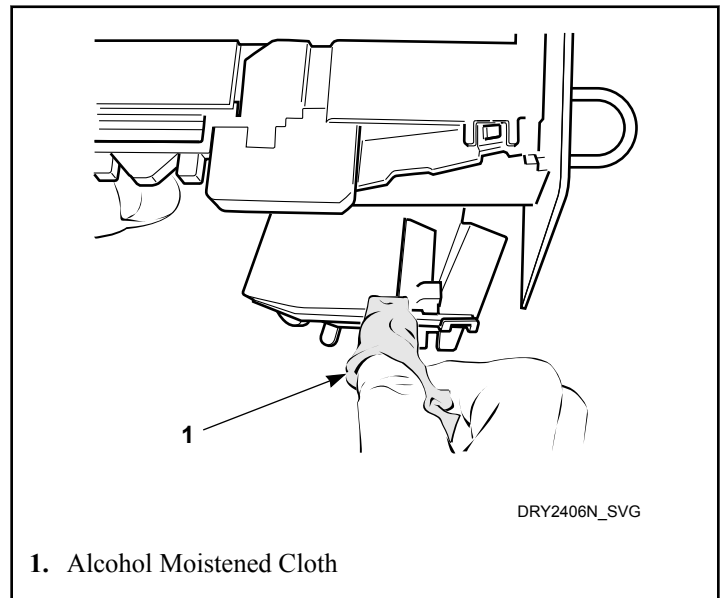

Figure 32
5. Clean residue from coin rail with an alcohol moistened cloth. Refer to *Figure 32*.